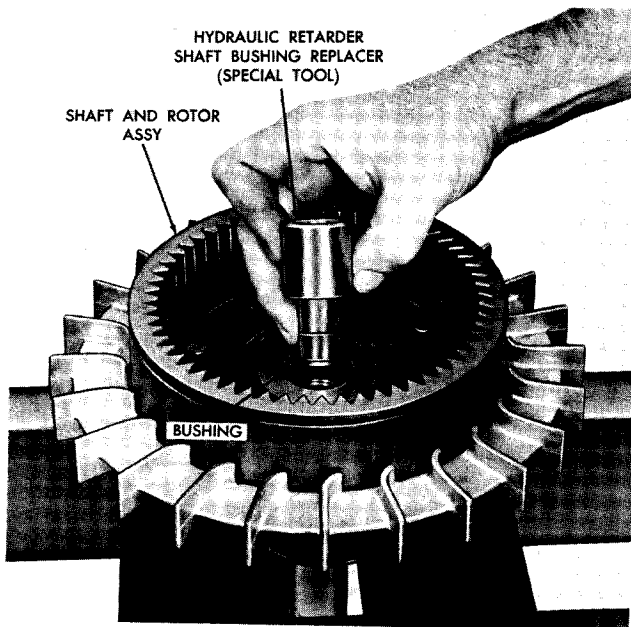

Fig. X-1 Installing rotor shaft bushing
(1) If the bushing was removed from the shaft and rotor assembly, install a new bushing. Use press and rotor bushing replacer (fig. X-1). Press until the bushing replacer bottoms.
(2) Install hook-type seal ring 4 into the groove of the gear outside diameter of shaft and rotor assembly 2.